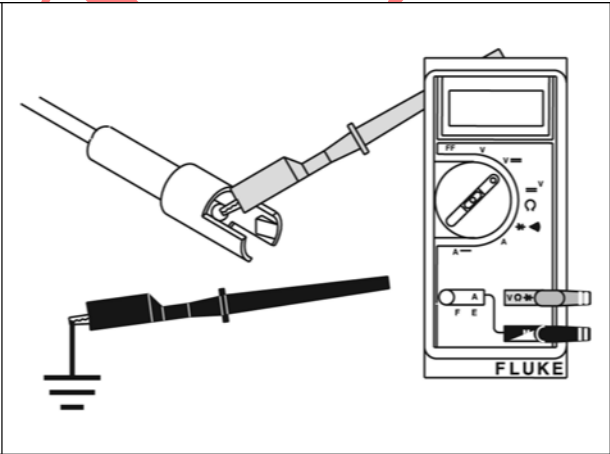

Figure 64
3. Insert red meter test lead into wiring harness connector and attach black test lead to ground (Figure 64).